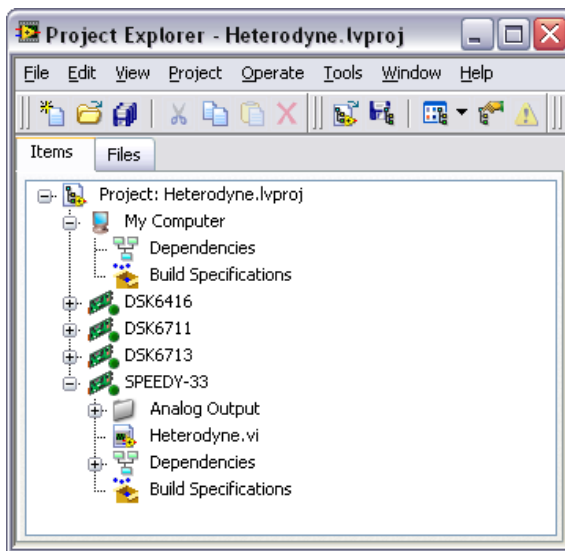

Figure 1. Targeting the SPEEDY-33 with the Heterodyne VI
4. Expand the target you are using in the **Project Explorer** window to see the items and VIs the project associates with that target, as shown in Figure 1.